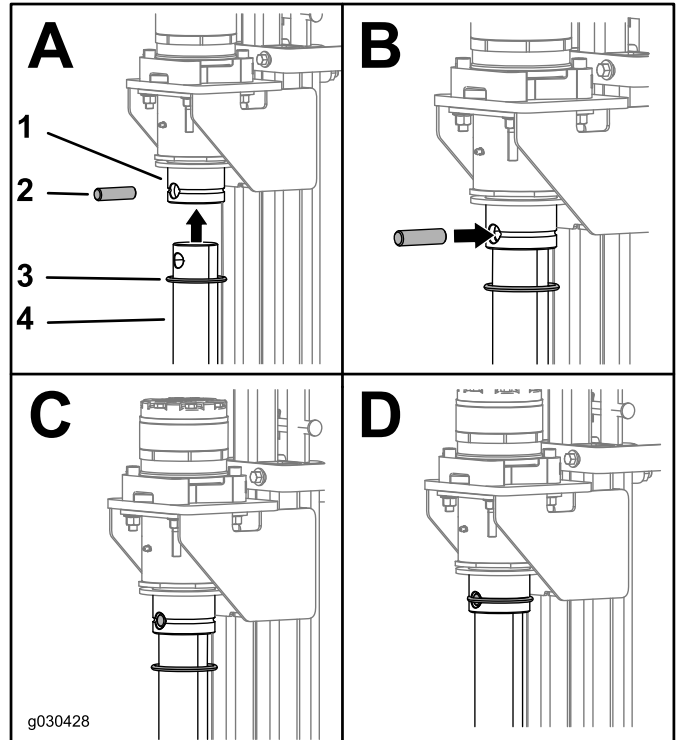

Figure 3
Install the new stakes by aligning the hole in the stake with the hole in the motor coupler and secure it with the O-rings and pins included in this kit (Figure 3).
8. Install the new stakes by aligning the hole in the stake with the hole in the motor coupler and secure it with the O-rings and pins included in this kit (Figure 3).